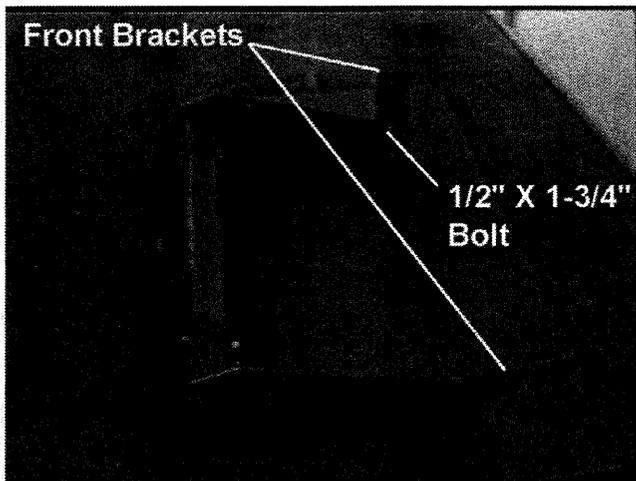

Figure 6
3. Position front brackets outside of subframe and retain with one 1/2" x 1-3/4" grade 5 bolt, 1/2" flat washer and 1/2" locknut. See Figure 6.